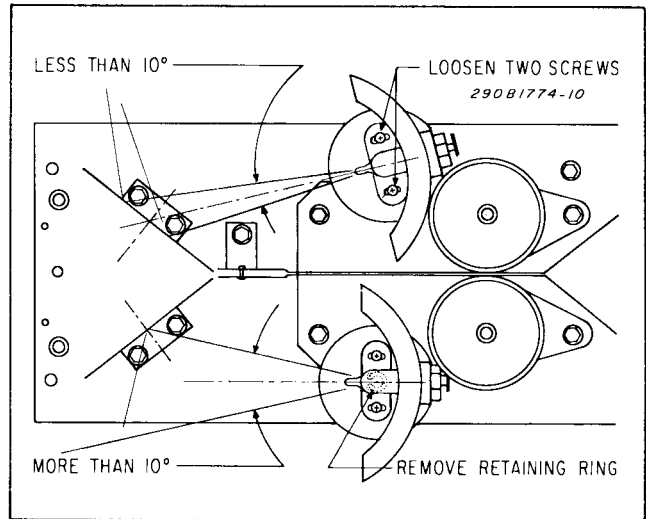

Figure 6.
a. Loosen the two screws which secure the reflector assembly to the gear (see figure 6).
a. Remove the retaining ring (see figure 6). Lift the gear and reflector assembly to disengage the gear teeth.